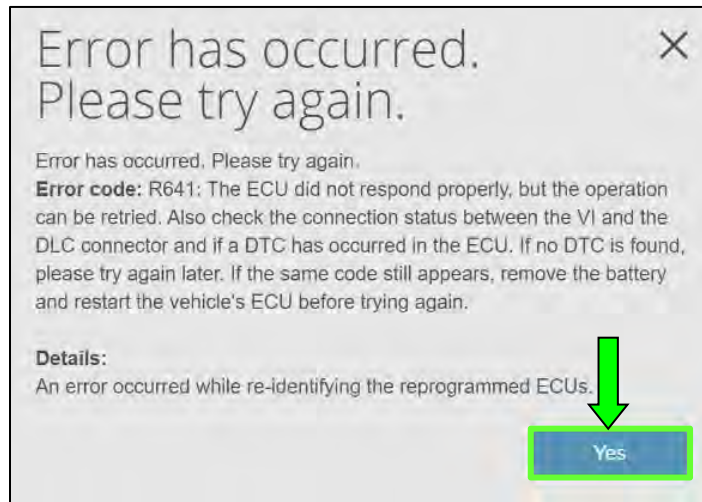

Figure 26
29. If the Error code R641 appears (Figure 26), Select **Yes** and continue to step 30.